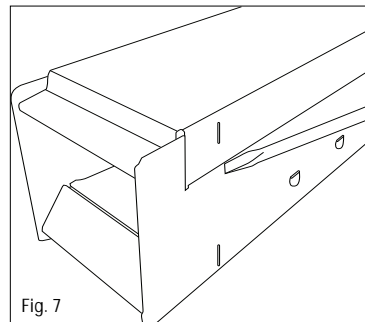

Fig. 7
1. Insert flat head screwdriver into seam between lid and channel. (See Fig. 7)